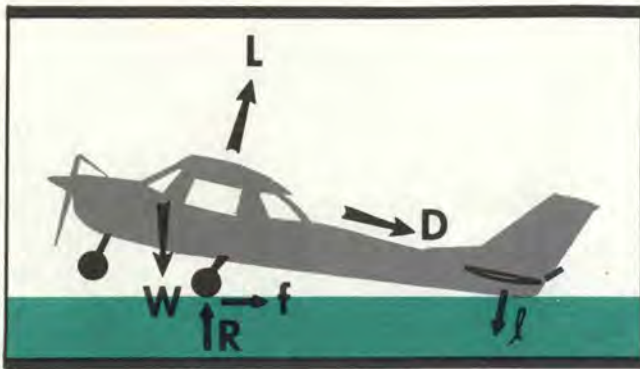
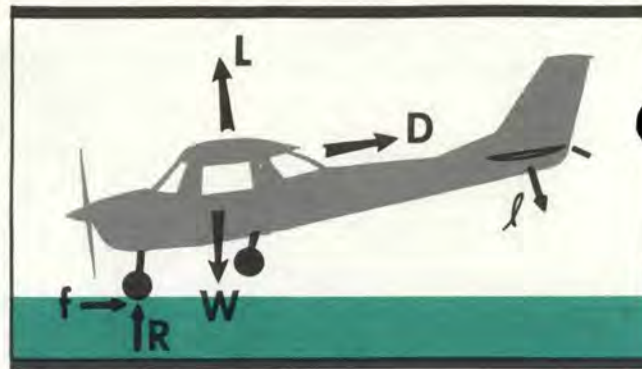

Figure 1
Figure 2
ostium of the auditory tube, opening and closing the flapper valve-like structure when yawning or swallowing. (Fig. 2.) Equalizing pressure enhances sound transmission, resolves balance problems, and decreases the amount of mucous membrane seepage of the middle ear.
Why does the full flap, soft field landing increase the probability of remaining upright? For several reasons. First, you land at a lot slower airspeed and have less momentum to dissipate. Secondly, you keep the nose wheel (and prop) from digging into the ground and causing your translating aircraft to become a rotating body. Third, a look at Figure 1 shows that you have the lift (L) and drag (D) forces working in your favor—keeping weight off the wheels and slowing you down. When you dump the nose you lose most of your lift, thereby putting the weight on the wheels (including a significant portion on the nose wheel). You also lose a portion of the drag which opposes the nose-over (Figure 2).